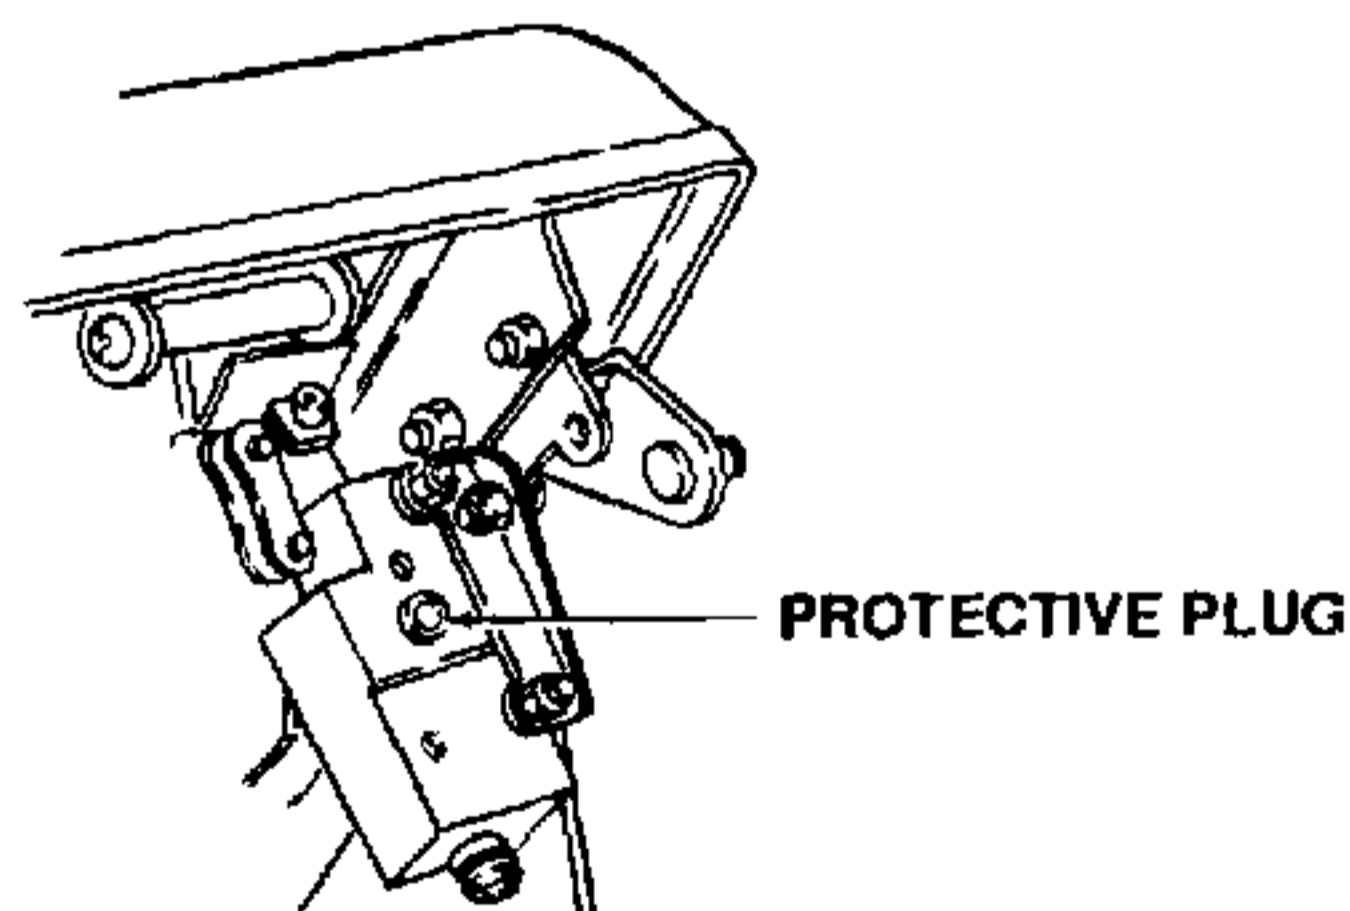

Figure 7-69. Inserting Protective Plug on Valve.
2. Insert a plastic protective plug (taken from uninstalled hydraulic valve in kit) in open port on top of valve from which top hydraulic tube was removed. Use care to keep uninstalled hydraulic valve clean. Refer to Figure 7-69.